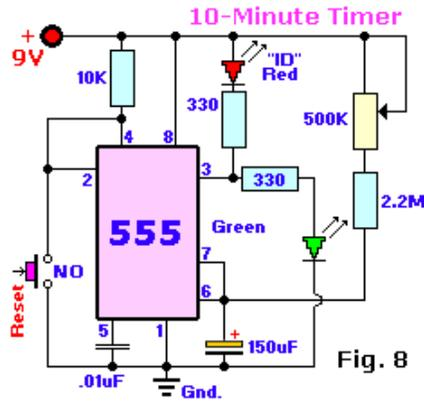

Fig. 8
**Fig. 8, Ten-Minute Timer:** Can be used as a time-out warning for Ham Radio. The Federal Communications Commission (FCC) requires the ham radio operator to identify his station by giving his call-sign at least every 10 minutes. This can be a problem, especially during lengthy conversations when it is difficult to keep track of time. The 555 is used as a one-shot so that a visual warning indicator becomes active after 10-minutes. To begin the cycle, the reset switch is pressed which causes the 'Green' led to light up. After 10 minutes, set by the 500K potentiometer R1, the 'Red' led will light to warn the operator that he must identify.